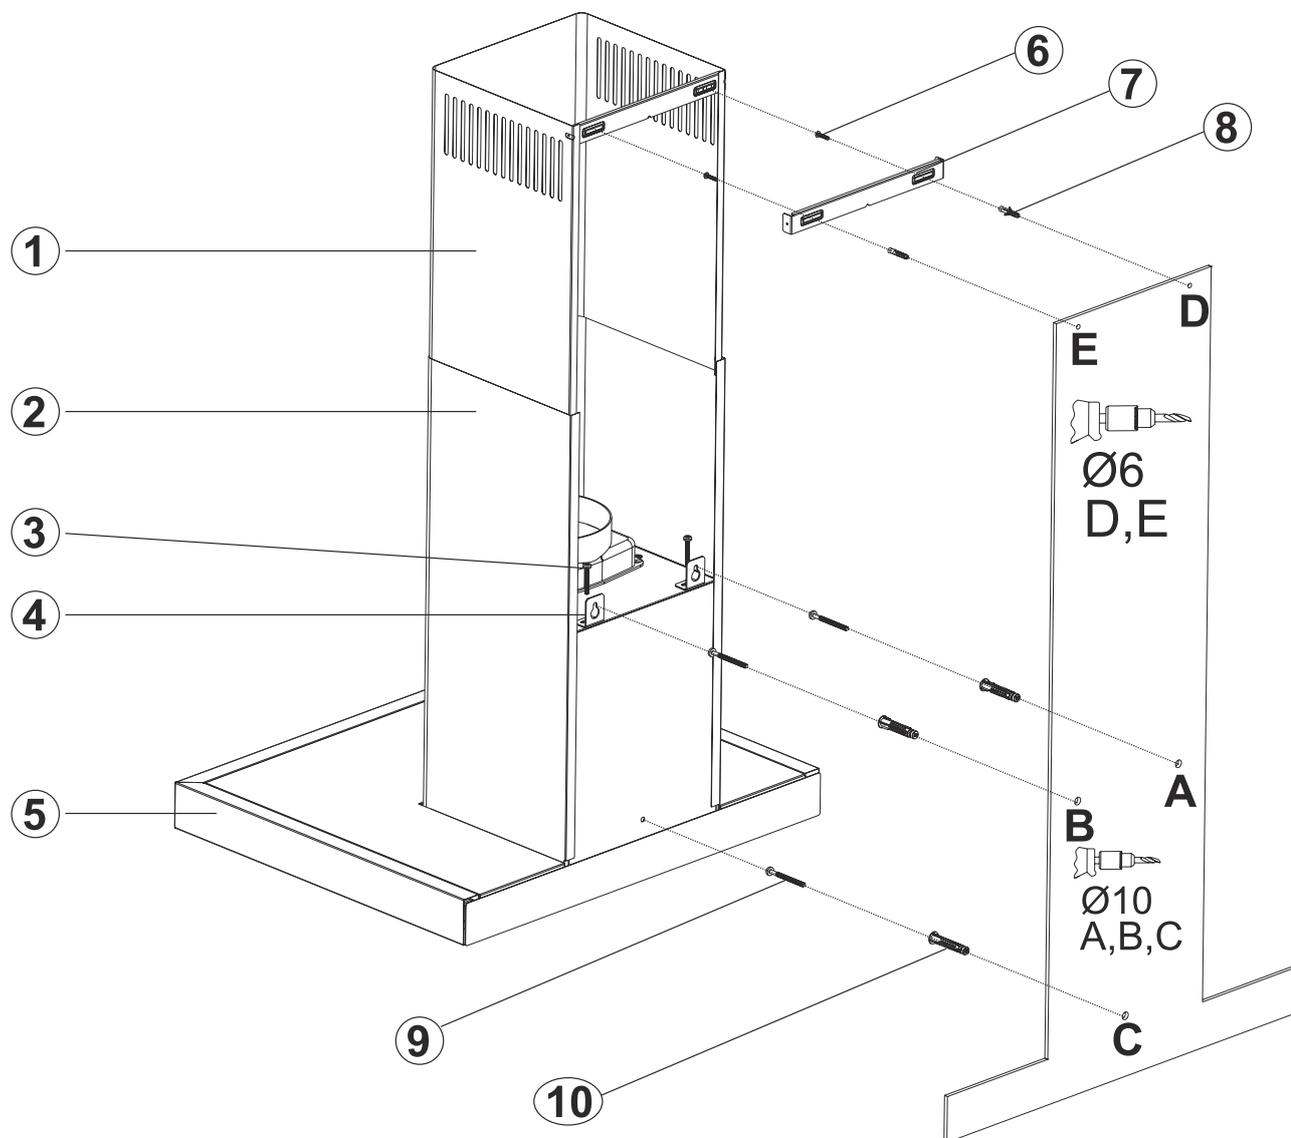

Fig. 11
2. ➤ Affix the assembly pattern on the wall at the specified height (See the minimum and maximum distances intended for the worktop, in the assembly pattern) and drill holes A, B and C with the dimensions specified in the template (Fig. 11).
- 3.** ▶ Insert Ø 10mm wall plugs into the holes drilled as A, B, C, D, and screw down the 5.5 x 60 screws (9) at the points A + B, in such a way as to remain 5mm space between the screw head and the wall (Fig. 11).
- 4.** ▶ Affix the hanging plates of the cooker hood on the body of the cooker hood with M5x35 bolt (3) (Fig. 11).
- 5.** ▶ Hang the hood from its hanging plates on the wall at points (A, B). If the hood is not parallel, position its shape to parallel by tightening or loosening M5x35 screw (3).
The cooker hood is set in the midst, and then the flue connecting plate (3) is directly affixed to the wall, under the cover or mark the points E and F. (Fig. 11)
Drill points E and F with  $\varnothing 6\text{mm}$  drill bit, and insert  $\varnothing 6\text{mm}$  and plastic dowels. Insert the flue connection plate with 3,9X22 screws (Fig. 11).